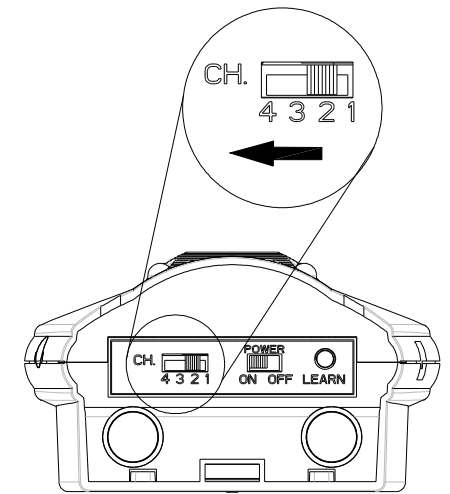
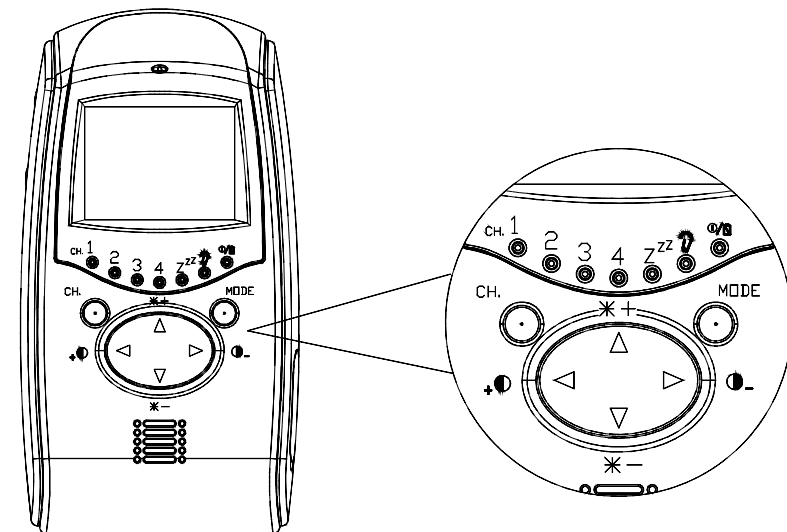

Fig. 14b
Fig. 15
- c. Press the CH selection button (Fig. 15) on the Monitor for a while. Four channel LEDs (numbered 1 to 4) on the Monitor will all light up for a moment simultaneously, which implies that the Monitor enters ID code learn mode.
the mode selection button (Fig. 15) on the front of Monitor.
- a. Audio/video mode: The Monitor is on continuously, emitting sound and image. Under this mode, both  $\vartheta$  and  $z^{z^z}$  LEDs will not illuminate. (Fig. 15) No matter what mode it is, simply enter Audio/video mode for impromptu surveillance.
- b. Audio mode: The Monitor only delivers audio and  $\vartheta$  LED will light up. (Fig. 15)
3. CH selection button: 4 channels are available by pressing CH selection button on the front of the Monitor. (Fig. 15) The channel sequence will be rotated once by pressing the button each time. Set the channel switch (numbered 1~4) on the Camera to the same channel as that of the Monitor. (Fig. 14b)
4. Brightness/Contrast Ratio Control: The brightness and contrast ratio control for the Monitor can be adjusted by pressing the below button: (Fig. 15)